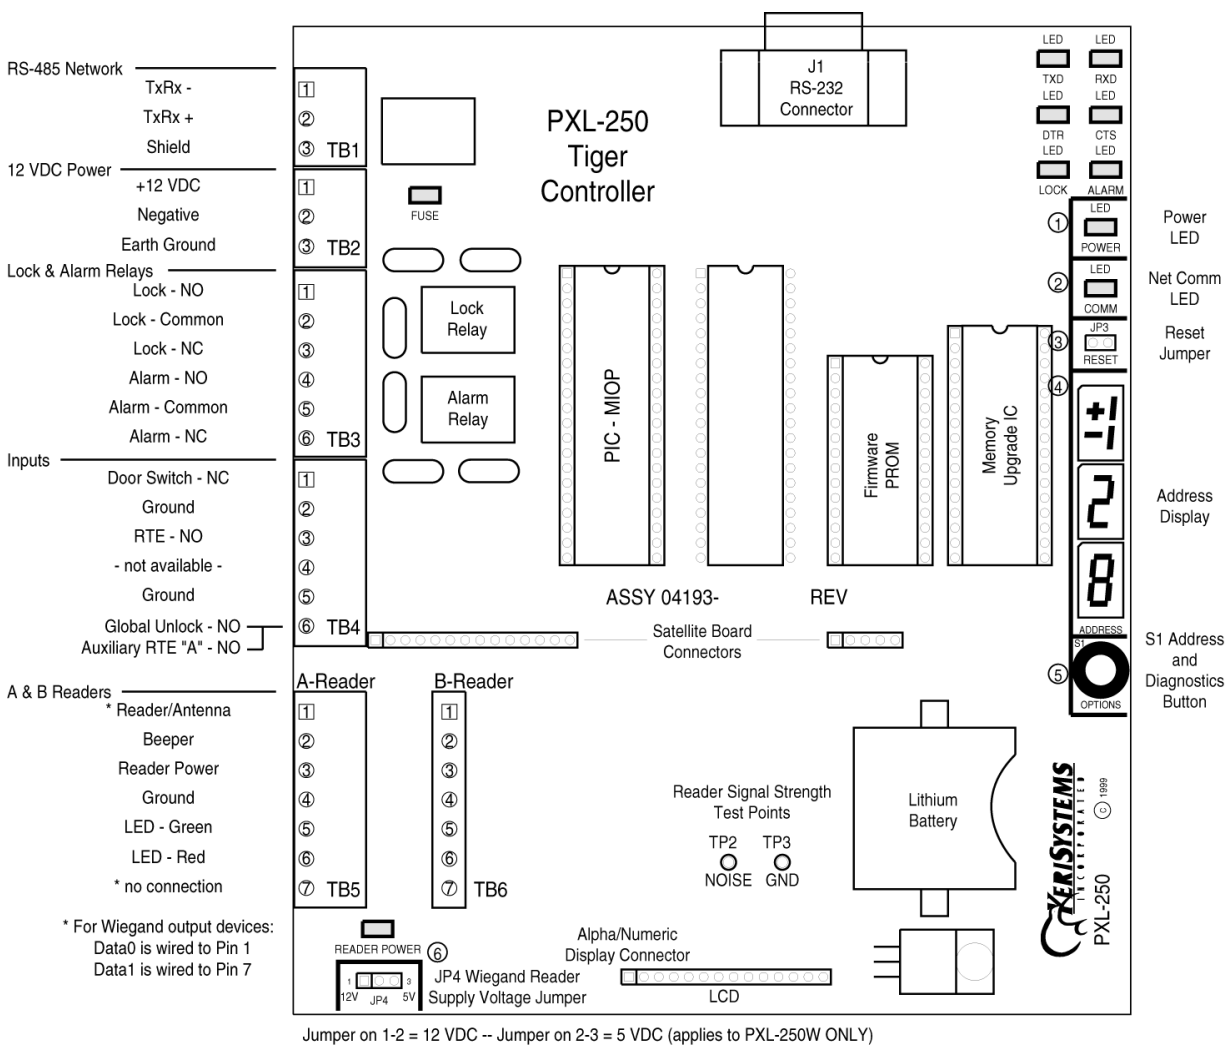

Figure 1: The PXL-250 Controller
Many of the troubleshooting instructions require a digital voltmeter (DVM) to verify source voltages, circuit continuity, and noise levels on the PXL-250 controller. Please have a DVM on hand before beginning troubleshooting. Refer to Figure 1 to identify items on the controller PCB.
5. No power or insufficient power has been supplied to the system.	<ul style="list-style-type: none"> Check the main power circuit breaker. Verify the positive power lead is on TB-2, pin 1 and the negative power lead is on TB-2, pin 2. Beginning with firmware revision 6.3.44, if the supply voltage detected by the controller falls below 11.1 VDC or raises above 14.4 VDC, the power LED turns red and that voltage value is displayed on the controller's LCD address display (see Figure 1 on page 1). Measure the input voltage across pin 1 (positive) and pin 2 (negative) of TB-2. The voltage should read between 12 and 14 VDC. Disconnect the power supply from the controller and verify the supply's voltage. The voltage should read between 12 and 14 VDC
To use the diagnostic routines the controller must have an LCD-1 Alpha/Numeric Display installed at J6. To access the diagnostics, click the S1 button (see Figure 1 on page 1) until the following screen appears on the LCD display (each click rotates the display between time, date, firmware revision, unit number, and diagnostics).